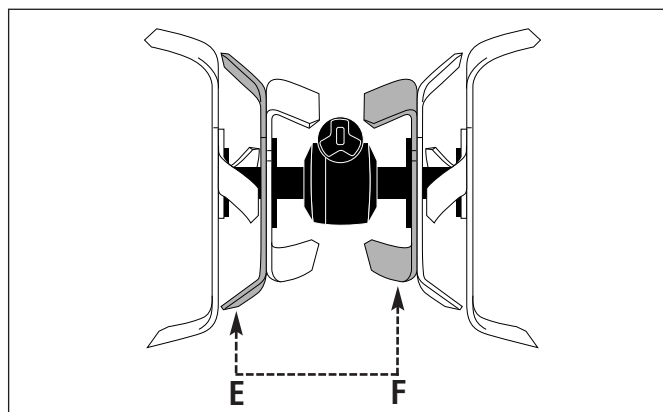

Figure 21: Exchanging position of tines at "E" and "F."
Step 3: Move the two *left-curved* tines from the "E" position on the left inner holder to the "F" position on the right inner holder. Move the two *left-curved* tines which were at the "F" position to "E." See Figure 21.